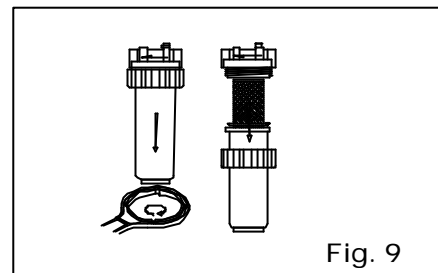

Fig. 9
83. REMPLACEMENT DES CARTOUCHES DE FILTRE (Fig. 9)